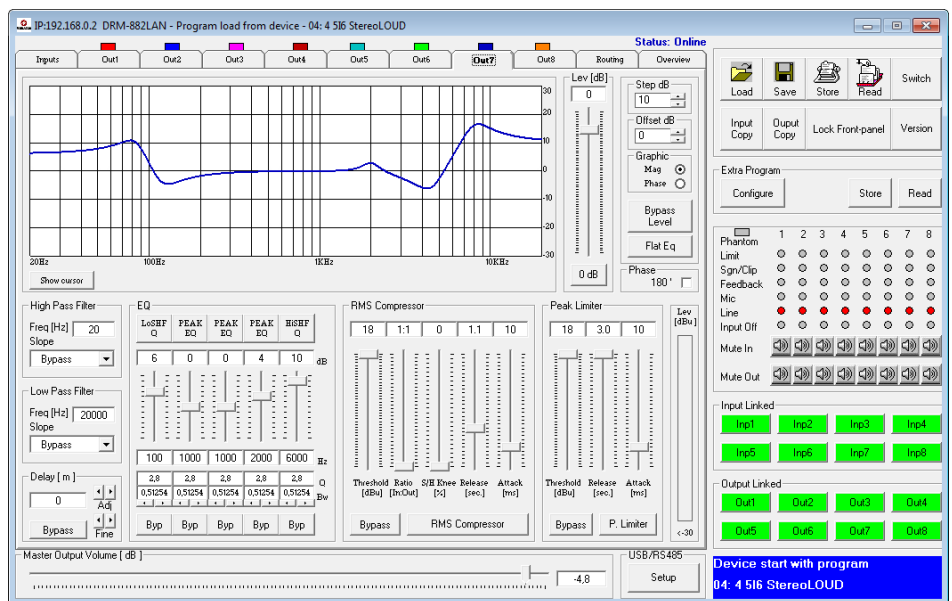
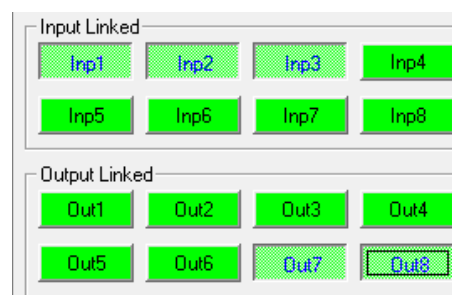

Fig. 27 View of output channel "Out7"
Fig. 32 Linkage of inputs and outputs
In the view of an output (e.g. "Out7", fig. 27), under "Delay", set the delay for the output signal. The unit (meter or milliseconds) can be changed in the view "Overview" (☰ chapter 6.3.1).
In the view of an output (e.g. "Out7", fig. 27), under "High Pass Filter" and "Low Pass Filter", set the high pass filter and low pass filter desired.
For the equalization of the individual outputs, five independent filters are provided. Set these filters in the view of an output (e.g. "Out7", fig. 27) under "EQ". The procedure for setting the equalization filters is identical to that for setting the input channel filters (☰ chapter 6.4.7).
In the view of an output (e. g. "Out7", fig. 27), under "RMS Compressor", set the parameters for the compressor. To change a parameter, move the corresponding slider by means of the mouse, or (with the slider selected) use the arrow keys or the "Pg Up" or "Pg Down" keys on the keyboard.
In the view of an output (e. g. "Out7", fig. 27), under "Lev [dB]", set the gain, i. e. the output level (between -127 ... +18 dB). To change the gain, move the slider by means of the mouse, or (with the slider selected) use the arrow keys or the "Pg Up" or "Pg Down" keys on the keyboard. To quickly reset the gain to 0 dB, click the button "0 dB" beneath the slider.
In the view of an output (e. g. "Out7", fig. 27), under "Peak Limiter", adjust the parameters for the limiter. To change a parameter, move the slider by means of the mouse, or (with the slider selected) use the arrow keys or the "Pg Up" or "Pg Down" keys on the keyboard.
- 1) On the right-hand side of the window, under "Input Linked" (fig. 32), click the buttons of all the inputs whose parameters are to be adjusted to the same value. The buttons appear to be "pressed" and the colour of their marking changes to blue.
- 1) On the right-hand side of the window, under "Output Linked" (fig. 32), click the buttons of all the outputs whose parameters are to be adjusted to the same value. If a view for a specific output (fig. 27) is being displayed, click the button for this output as well. The buttons appear to be "pressed" and the colour of their marking changes to blue.